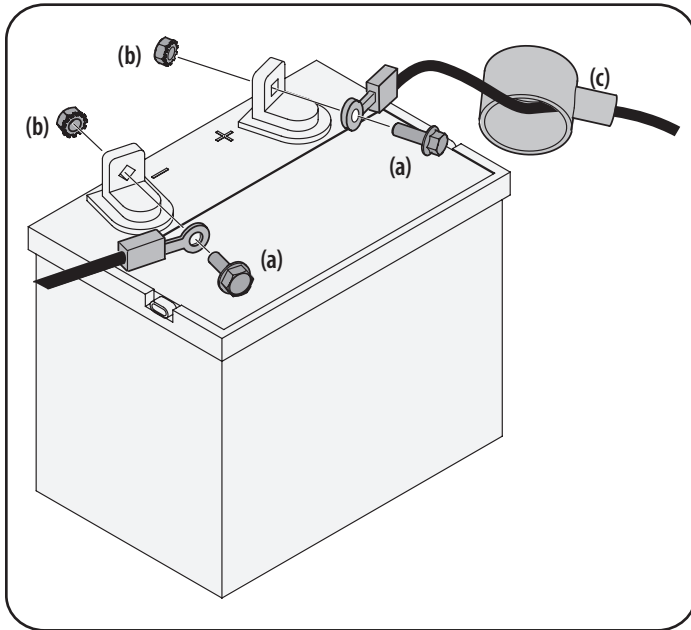

Figure 2
1. Remove the plastic cover, if present, from the positive battery terminal and attach the red cable to the positive battery terminal (+) with the bolt (a) and hex nut (b). See Figure 2.
2. Remove the plastic cover, if present, from the negative battery terminal and attach the black cable to the negative battery terminal (–) with the bolt (a) and hex nut (b). See Figure 2.